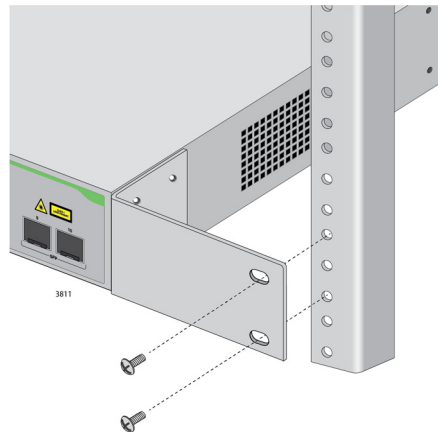

Figure 7. Mounting the Switch in an Equipment Rack
3. Mount the switch in a standard 19-inch equipment rack using four equipment rack screws (not provided with the switch) as shown in Figure 7.